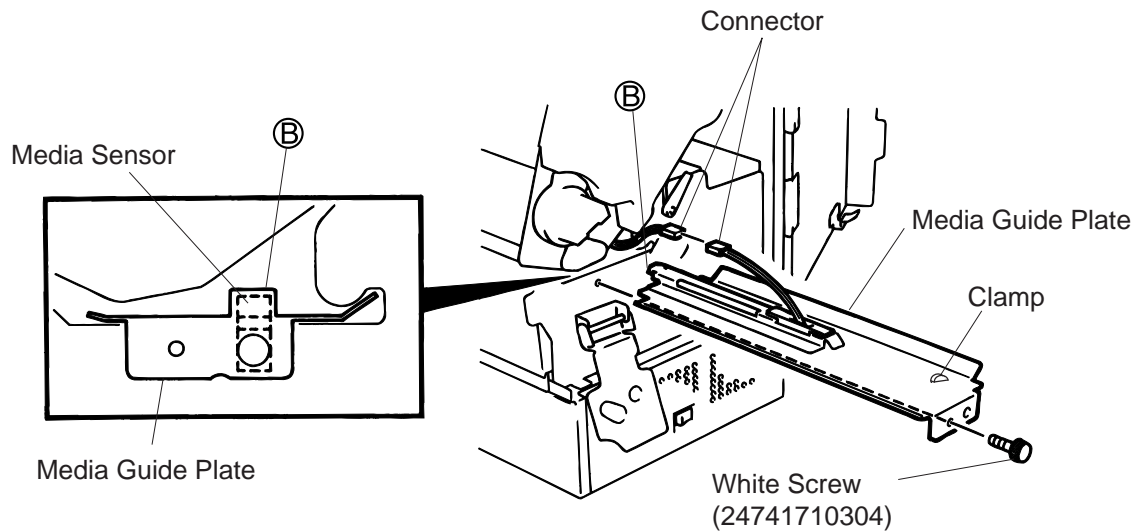

Fig. 11-5
4. Remove the white screw, unclamp and disconnect the connector of the media guide plate, and then detach the media guide plate. (See Fig. 11-5.)
8. Place the portion ② of the media guide plate on the media sensor. Secure the media guide plate with the white screw.